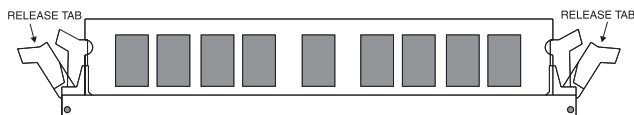

Figure 3-1: Installing a 168-Pin DIMM
1. Hold the DIMM so that the notched edge is aligned with the notch on the DIMM socket (Figure 3-1).